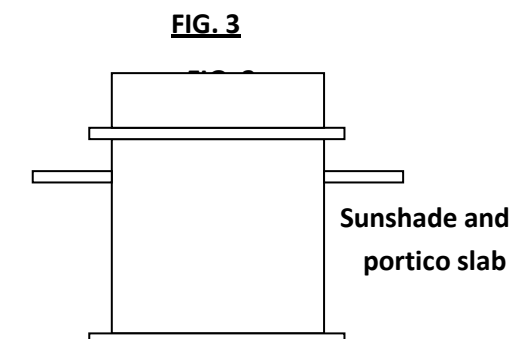

FIG. 3
- (ii) A verandah or balcony can be provided towards east and west to keep the rooms cool (**FIG. 3**)